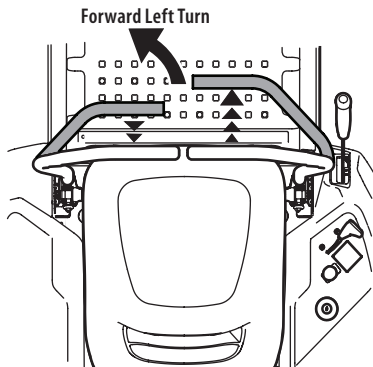

Figure 29
1. To turn to the left, move the left drive control lever rearward of the right drive control lever (Figure 29).